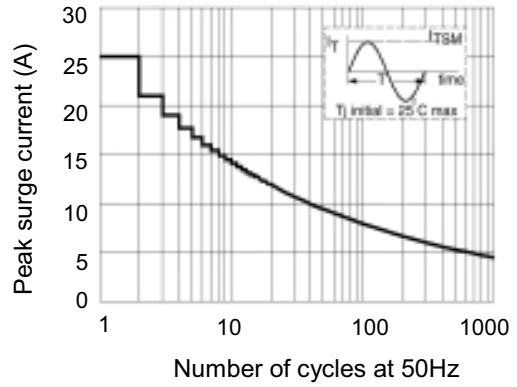

Figure 2 Maximum permissible non-repetitive peak surge current vs. Number of cycles
(2) JGC-5F/D-□T only.
(4) See figure 2.